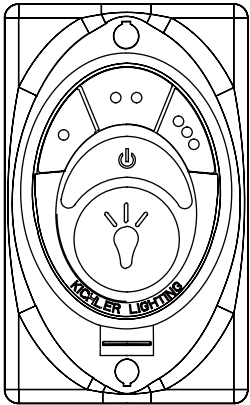

Fig. 21
Step 5. The buttons control the fan speed and light as follows: (Fig. 21)